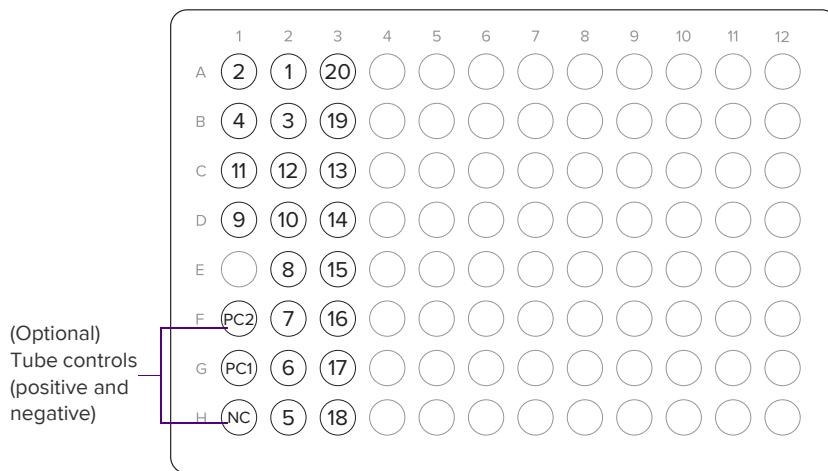

Figure 13. HT IFC column attribution to harvest plate position
- 7** (Optional) If performing a tube control, transfer 5 µL of the product from the tube control preamplification reactions (see Process the Tube Controls with Harvest Samples on page 71) into the recommended wells of the 96-well harvest plate (see Figure 13), then continue with the protocol.